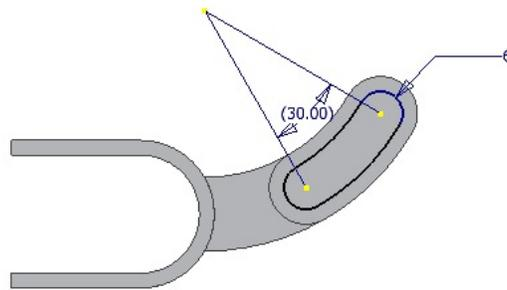

Figure 7-52 Sketch of the cut feature
- Specify a new sketch plane on the front face of the second join feature and then create the sketch of the cut feature on this plane. If required, you can project the existing sketch. You can offset and dimension the reference entities to create the sketch of the cut feature, as shown in Figure 7-52.